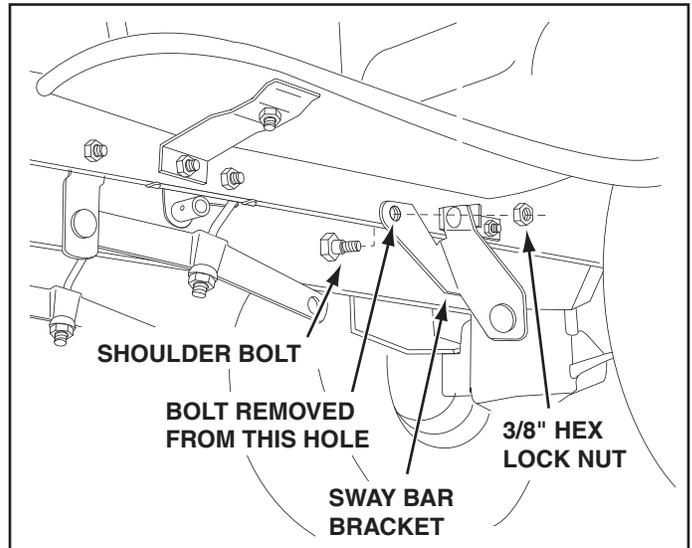

FIGURE 9 LEFT SIDE VIEW
1. Remove the bolt, washer and nut which fasten the sway bar bracket to the L.H. side of the tractor frame. Replace with a shoulder bolt and a 3/8" hex lock nut as shown in figure 9.